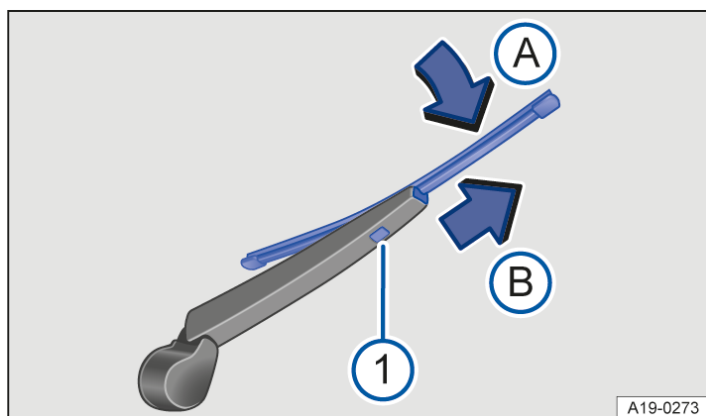

Fig. 2 Changing the wiper blade for the rear window.
3. Press and hold the release button → Fig. 2 ¹.
4. Tilt the wiper blade in the direction of the wiper arm → Fig. 2 ^A and pull it off in the direction of the arrow ^B at the same time. You may need to use some force to do this.
5. Insert a new wiper blade with the same length and design onto the wiper arm against the direction of the arrow. Push it on until it engages → Fig. 2 ^B. The wiper blade must be in folded-down position to do this → Fig. 2 ^A.